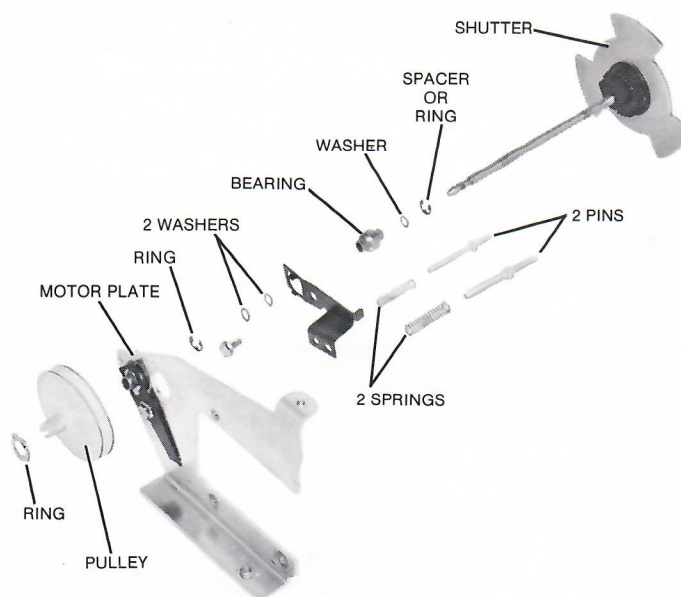

FIGURE 24
5. Remove the RING, the SHUTTER PULLEY, and the two WASHERS from the shaft, Figure 24.
6. Remove the RING and WASHER(S) from the shaft, Figure 24.